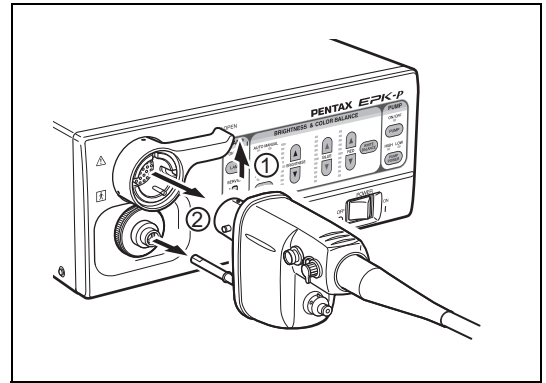

Figure 5.1
- 3 Remove the scope and water bottle from the processor. (Refer to Figure 5.1)**